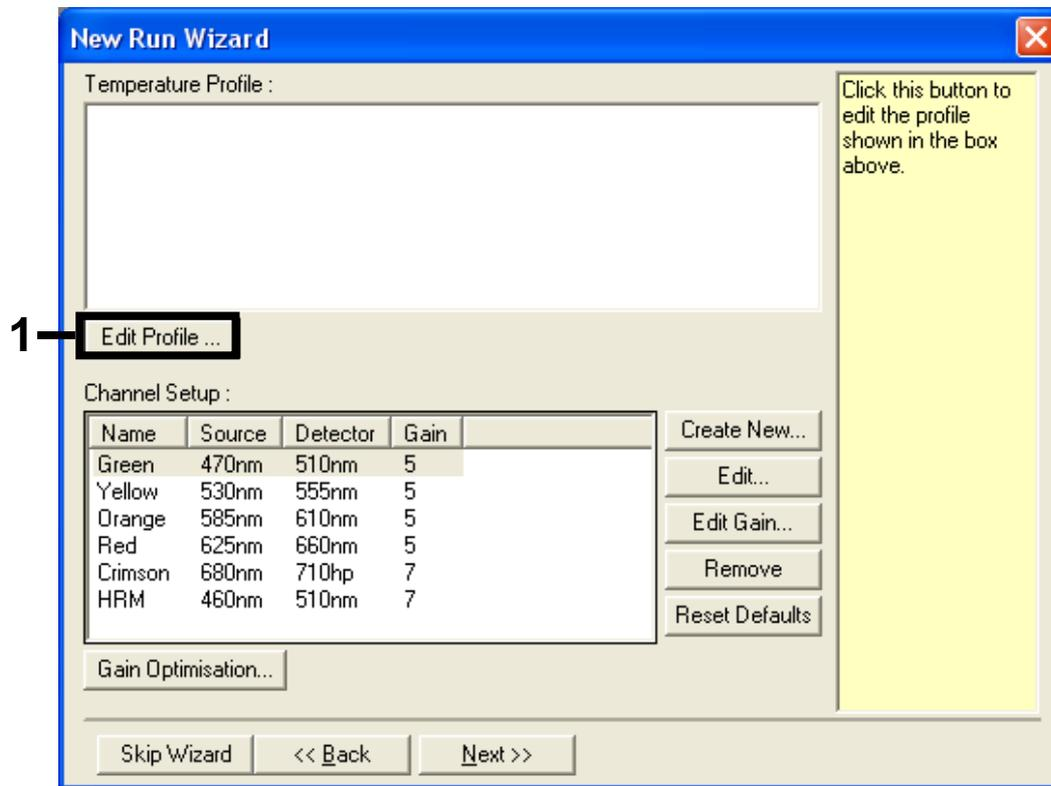

Figure 23. Editing the profile (1).
5. Click the "Edit Profile" button in the "New Run Wizard" dialog box (Figure 23) and check the run parameters according to the following steps.